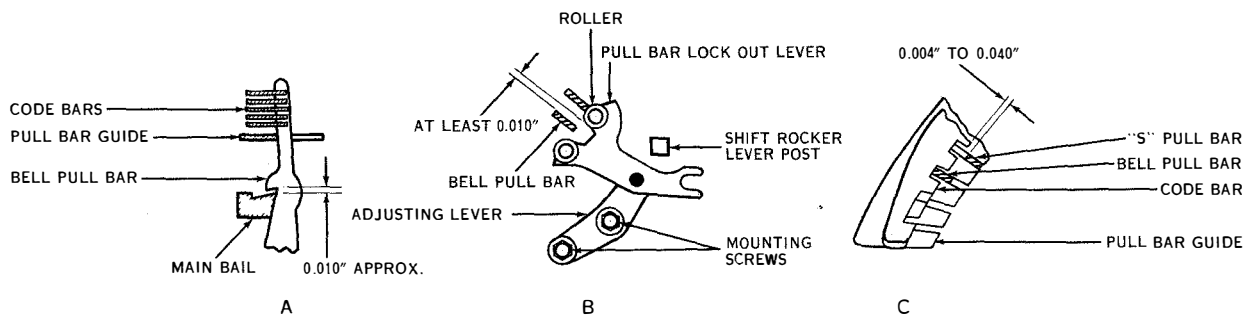

Figure 7-66. Signal Bell Pull Bar Lockout Lever (Figures Position)
(87) **PULL BAR LOCKOUT LEVER.** (See figures 7-66 and 7-67.)—There should be 0.004- to 0.040-inch clearance between the S pull bar and the code bars. To check, place the platen in the FIGURES position, and select the BLANK combination. Rotate the main shaft until the main bail is in its uppermost position and check the clearance.